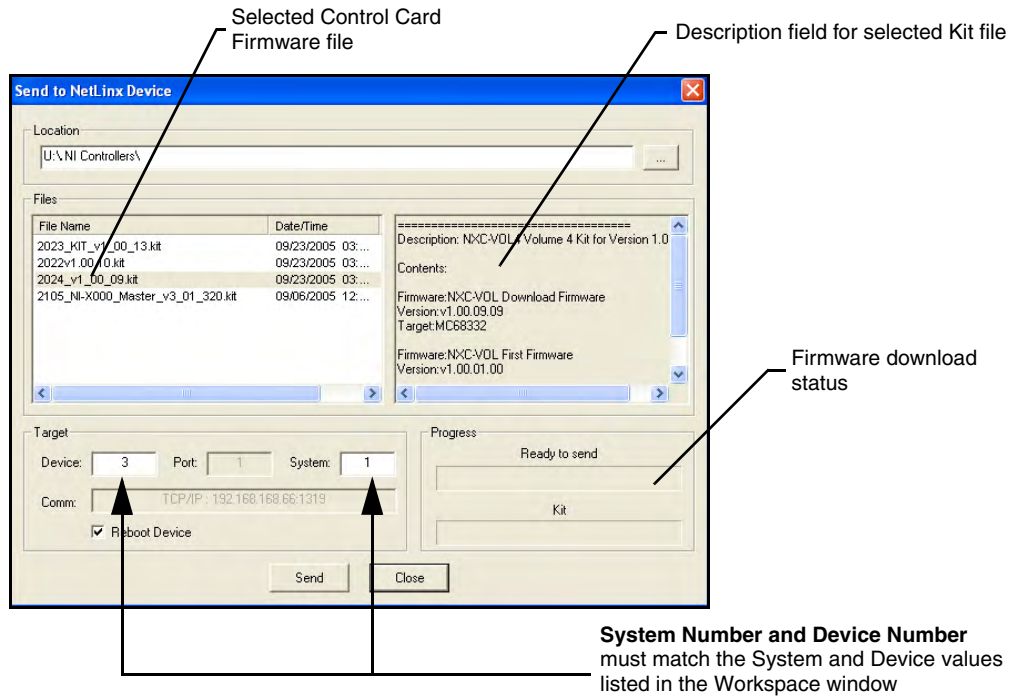

FIG. 44 Select Control Card firmware file for download page (via IP)
8. Select **Tools > Firmware Transfers > Send to NetLinX Device** from the Main menu to open the Send to NetLinX Device dialog (FIG. 44). Verify the target's **Device and System** numbers matches the value listed within the System folder in the Workspace window.
9. Select the Control Card's Kit file from the **Files** section (FIG. 44) (in our above example we chose to update the NXC-VOLA card).
12. Click **Send** to begin the transfer. The file transfer progress is indicated on the bottom-right of the dialog (FIG. 44).